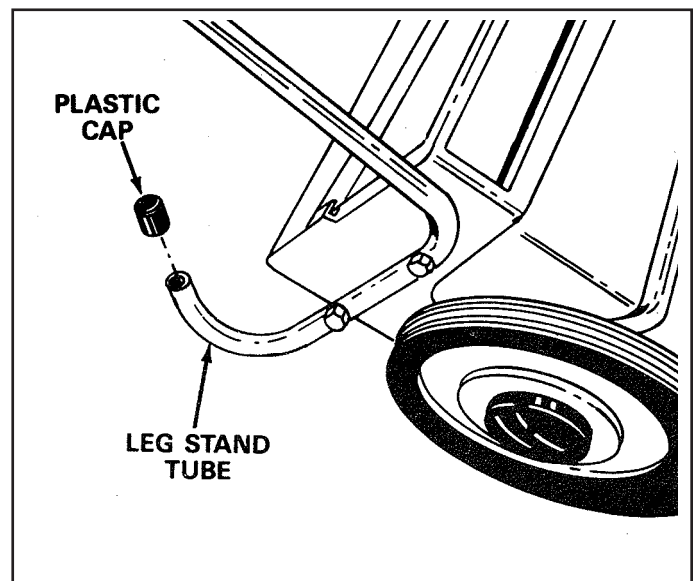

FIGURE 6
8. Assemble the two plastic caps 3/4" x 7/8" onto the ends of the leg stands as shown in figure 6.